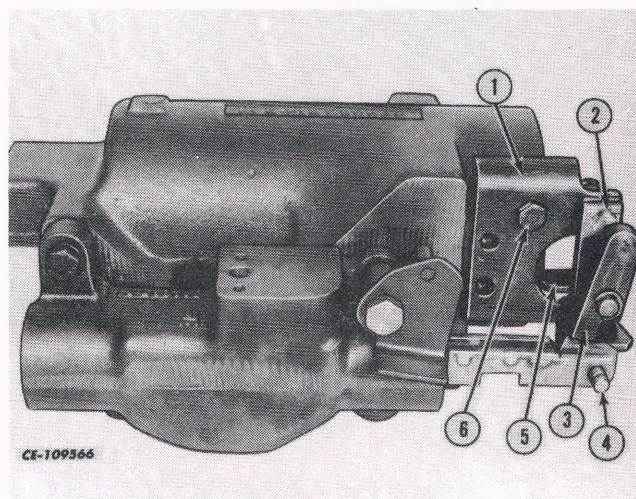

Fig. 34
2. Remove the switch lever bracket assembly (1) with hydraulic switch lever (5) and the eccentric plate assembly (2) with draft control trigger lever assembly (3) from the draft control cylinder assembly. See Fig. 34.